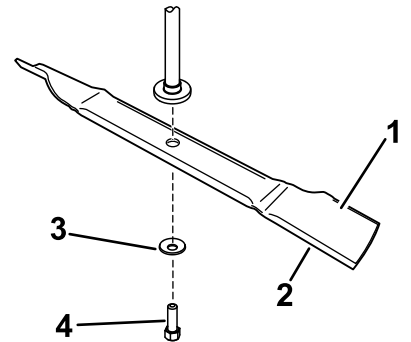

Figure 44
thickly padded glove, try to rotate the blade. If the blade rotates relative to the spindle guard without further tightening the blade bolt, the spring disc washer has been flattened or damaged and the bolt and washer assembly must be replaced (Figure 44). Refer to **Removing the Blades and Installing the Blades**.
Hold the blade end using a rag or thickly-padded glove. Remove the blade bolt, curved washer, and blade from the spindle shaft (Figure 44).
1. Install the blade onto the spindle shaft (Figure 44).